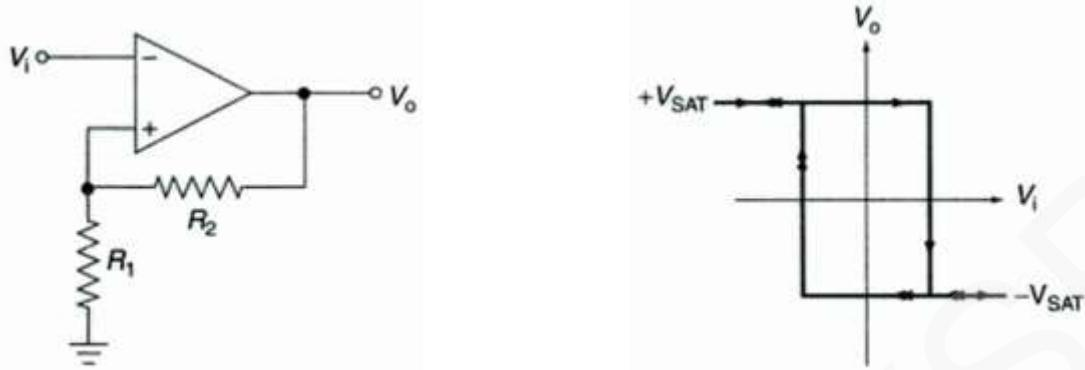

Figure 17.44: Inverting comparator with hysteresis
- Let us assume that the output is in positive saturation ($+V_{SAT}$). (Figure 17.44).